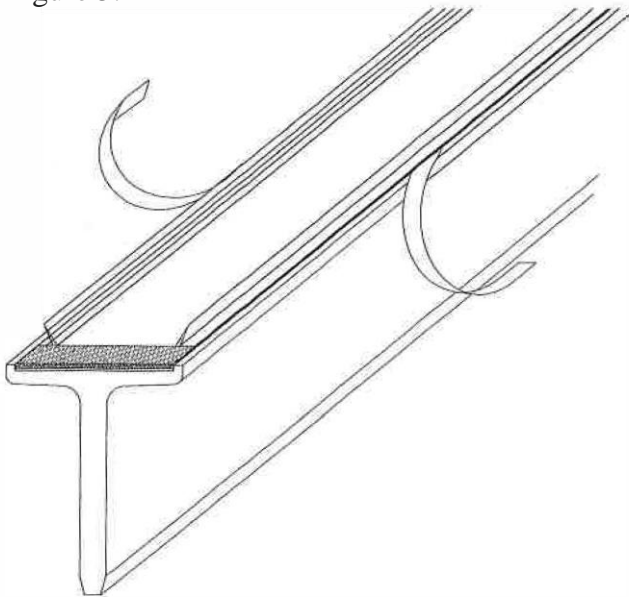

Figure 5
3. Apply the Silvis Seal to the "T" by removing approximately 2 ft. of backing tape. Starting at the end blocker, apply the Seal to the recessed channel in the "T" being careful to orient the Seal in line with the "T". Lay the rest of the Seal in the recessed channel. Carefully pull the remaining backing tape from the "Seal" and using light pressure adhere it to the aluminum as shown in Figure 5.
7. Starting from the point you selected in step C-1 place the first "outside division panel" on the corresponding "Sanislope T". Place the adjacent back panel as shown in Figure 5. Note that the vertical edges of the panel are flush with each other.